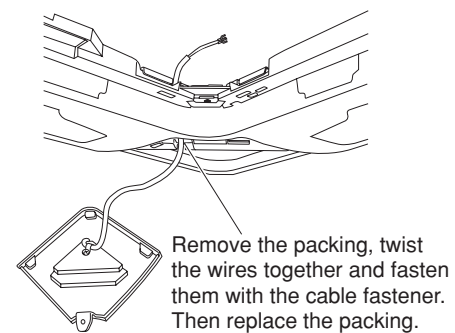

Fig. 11-3
- (3) The square hole used for the panel wiring is filled with packing (sponge material) used for insulation.* Remove the packing, then pass the wiring from the wireless receiver unit through the grill. Twist the wires together and use a cable fastener to fasten them and attach with a screw, then replace the packing in the hole as it was before. (Fig. 11-3)
- (4) After completing wiring as described in “Wiring the Receiver Unit” on the next page, twist the wires together and use a cable fastener to fasten them, leaving a length of wiring that is long enough to permit removal of the adjustable corner cap. (Fig. 11-3)